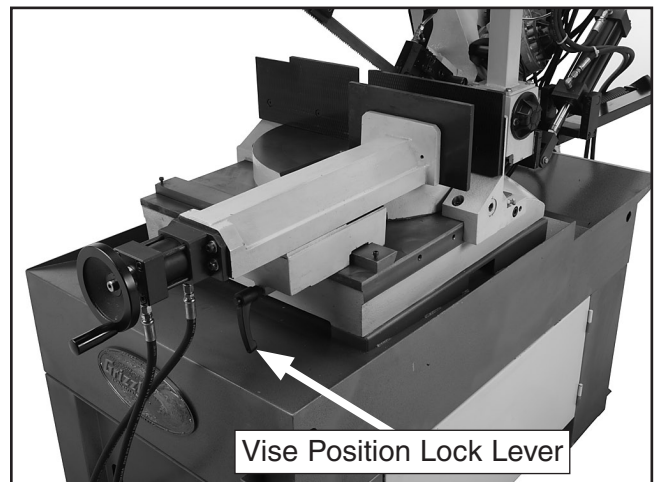

Figure 25. Positioning Vise.
4. Loosen the vise position lock lever and slide the vise assembly to the right side of the saw table (Figure 25).